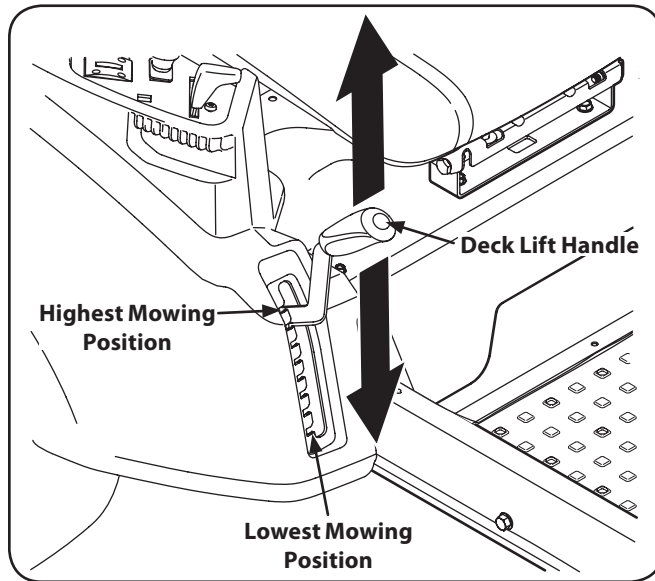

Figure 7-3
2. Using the deck lift handle, raise the deck to the position that provides the most horizontal run of the belt between the deck idler pulleys and the PTO pulley on the bottom of the engine. See Figure 7-3.
6. Lower the deck into the lowest position using the deck lift handle. See Figure 7-3.
1. Place the deck lift handle in the highest mowing position See Figure 7-3.